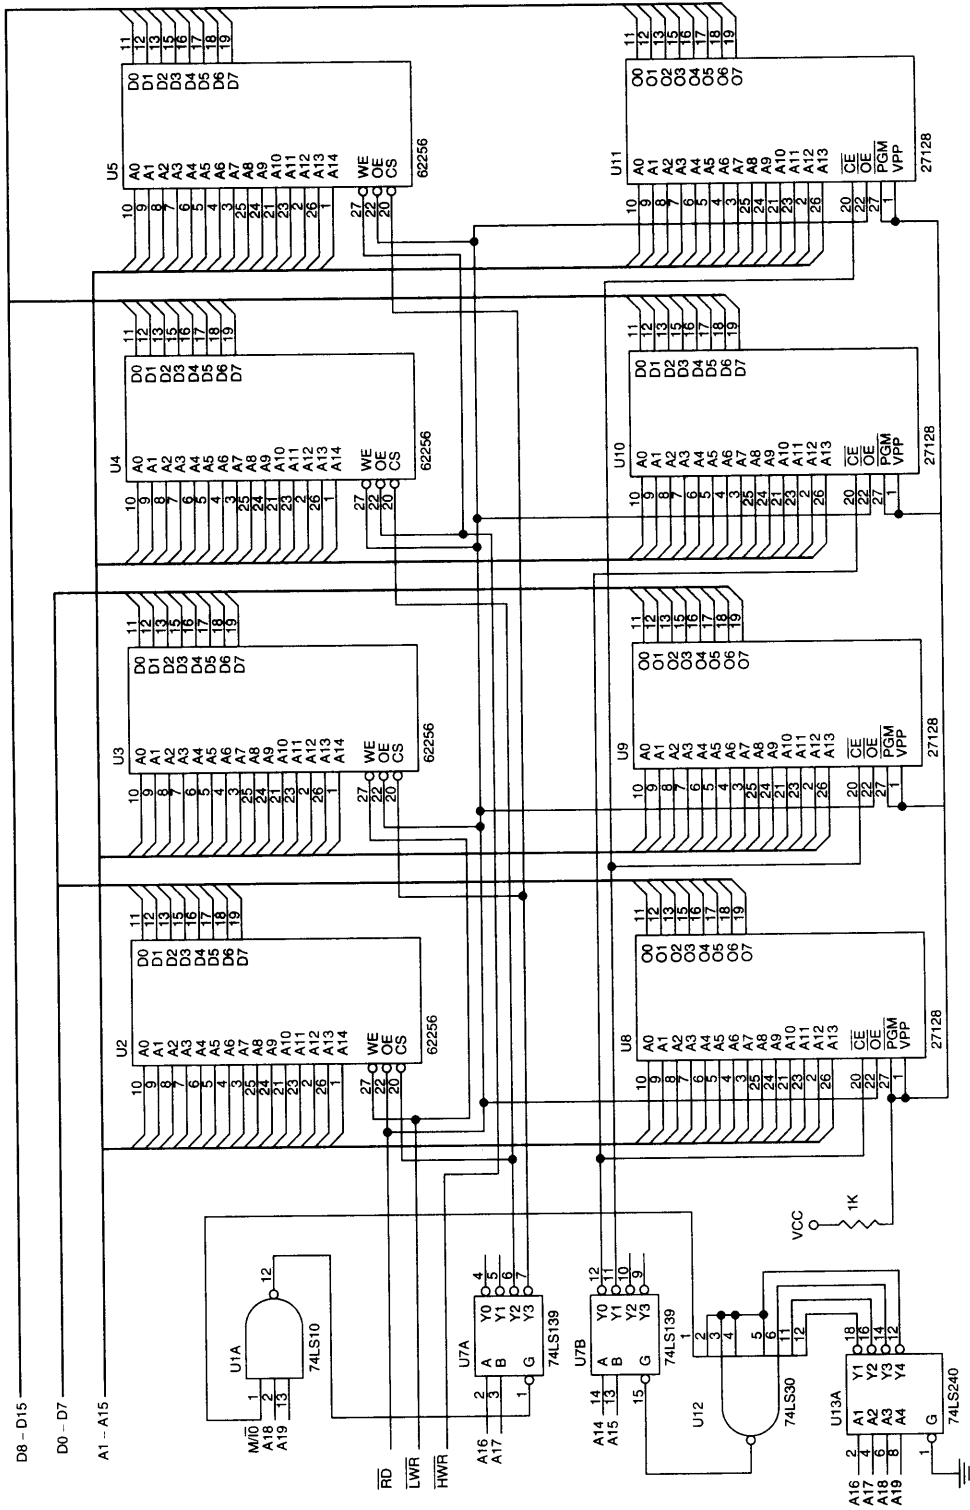

FIGURE 9-22 A memory system for the 8086 that contains a 64K-byte EPROM and a 128K-byte SRAM.
Figure 9-22 depicts a small memory system for the 8086 microprocessor that contains an EPROM section and a RAM section. Here, there are four 27128 EPROMs (16K × 8) that compose a 32K × 16-bit memory at location F0000–FFFFFH and four 62256 (32K × 8) RAMs that compose a 64K × 16-bit memory at location 00000H–1FFFFH. (Remember that even though the memory is 16 bits wide, it is still numbered in bytes.)
32. Why don't separate bank read (RD) strobes need to be developed when interfacing memory to the 8086?
33. Modify the circuit of Figure 9-22 so that the EPROM is located at memory range C0000H–CFFFFH and the RAM is located at memory range 30000H–4FFFFH.